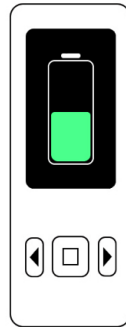

Fig. 7 : **X-Smart® Go** endo motor is charging
- While charging, the battery icon appears on the motor's screen (see ► Fig. 7]). Once charging is complete, the motor's screen and the blue LED on the power bank will turn off.